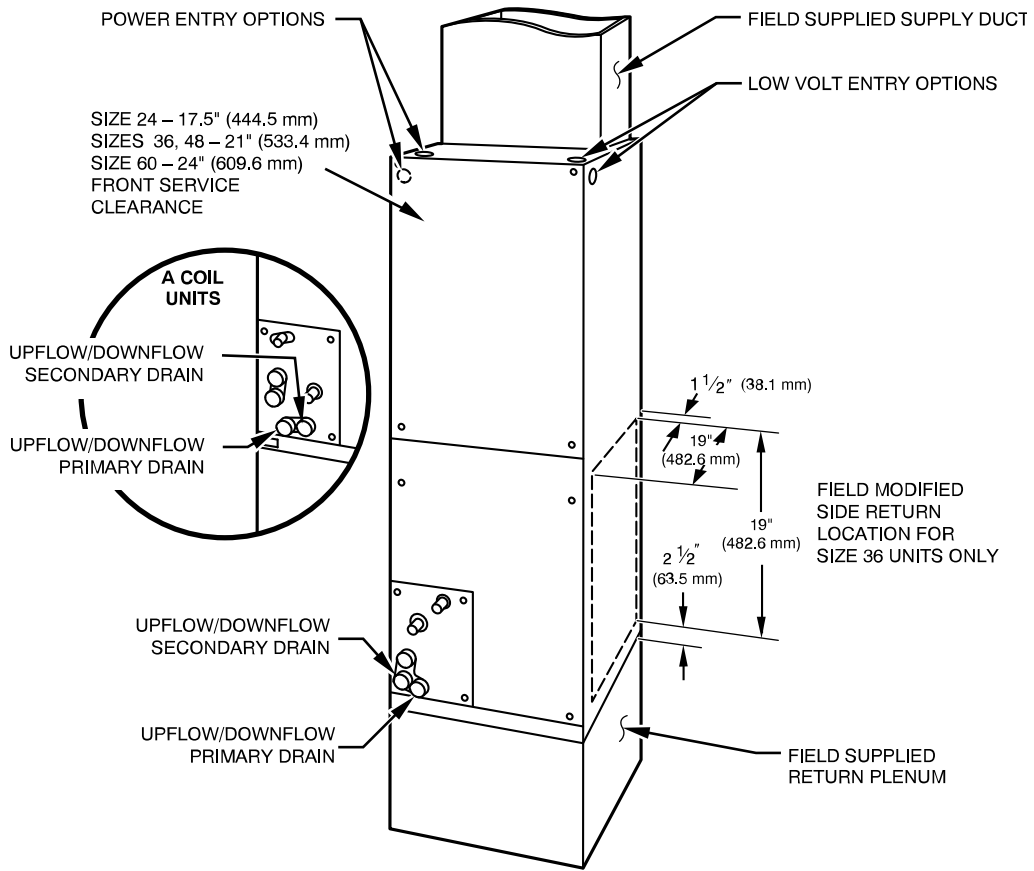
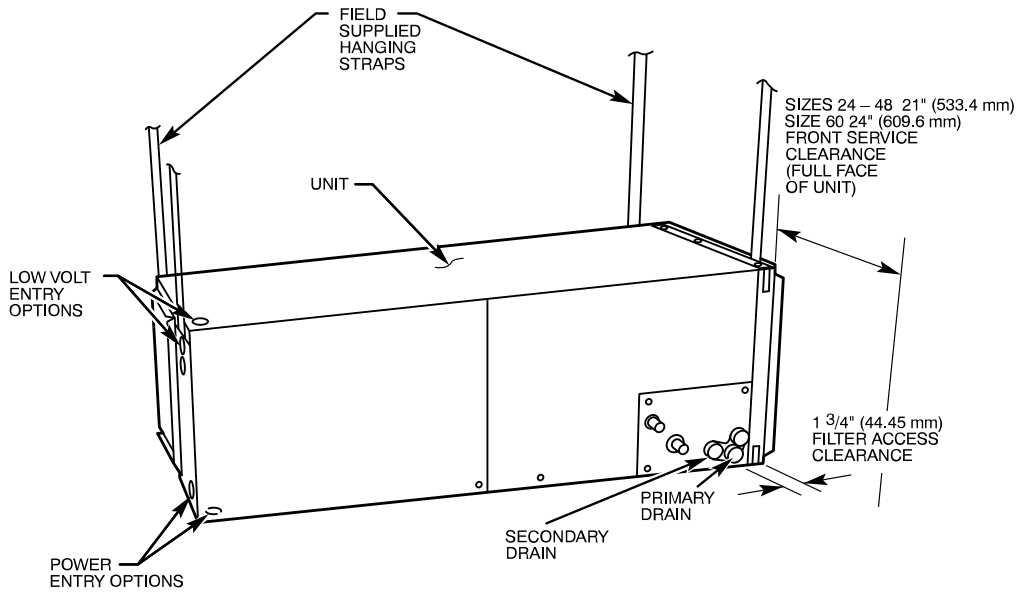
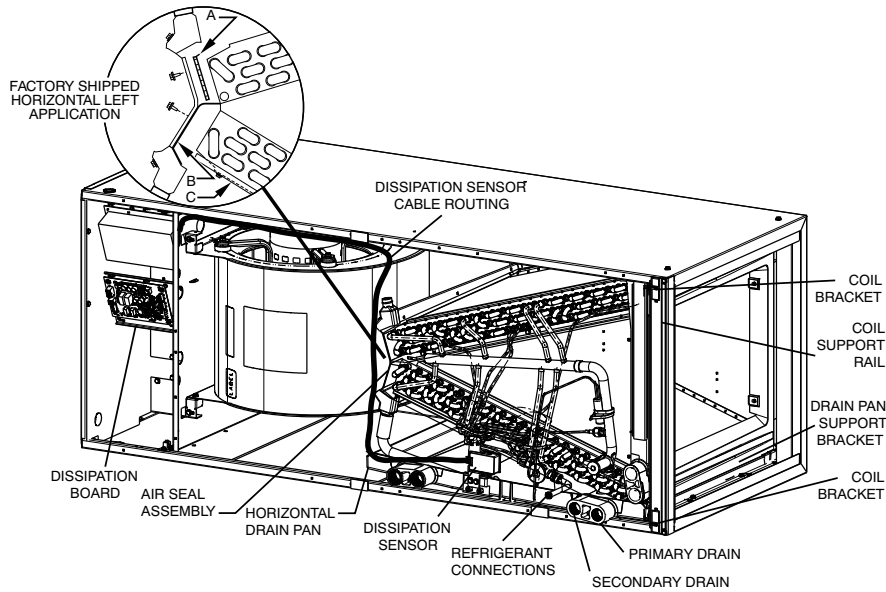

Fig. 1 – Slope Coil Unit in Upflow Application
Fig. 2 – Slope Coil in Horizontal Left Application
Fig. 3 – A-Coil in Horizontal Left Application
FCMA5 fan coils can be installed for upflow and horizontal-left applications as factory shipped (Fig. 1, Fig. 2, Fig. 3), and FCMA5 may be converted for downflow applications using factory-authorized accessory kits.
Side return is a field option on slope coil models. Cut opening per dimensions (Fig. 1). A field-supplied bottom closure is required.
2. When suspending unit from ceiling dimples in casing indicate proper location of screws for mounting metal support straps (Fig. 2).